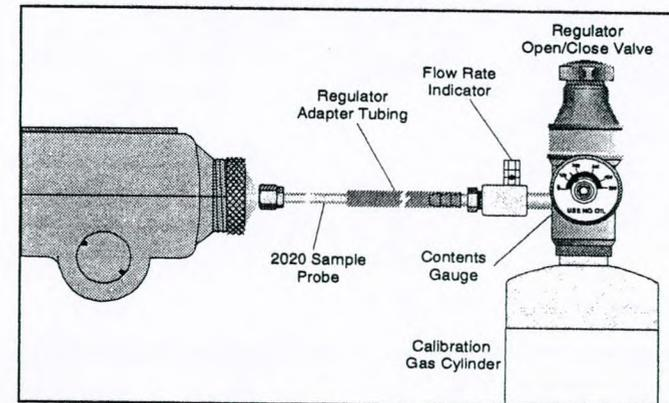

Figure 11 Flow-Match Regulator
10. Insert the 2020 sample probe into the adapter tubing from the regulator. See Figure 11.